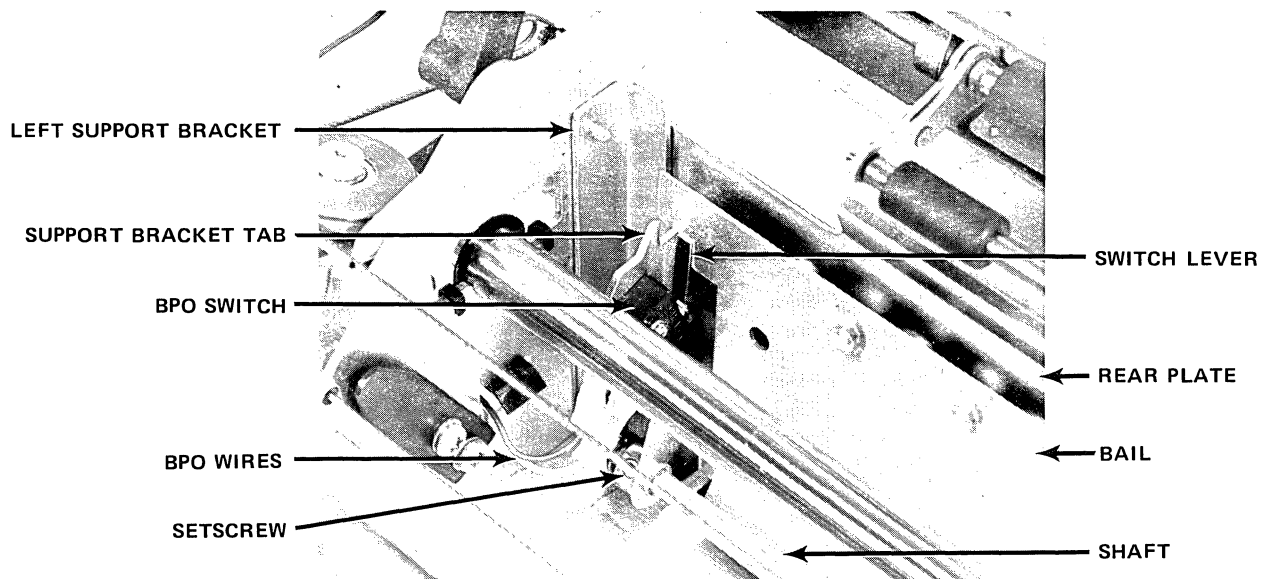

Figure 4-27. BOTTOM FEED ASSEMBLY
- 11) Lower the paper chute rear plate (Item 1) into position flat against the printer frame as shown in Figure 4-27. The row of bumps on the plate must be at the top and projecting forward away from the printer frame. The plate rests on the printer frame on either side of the bottom slot. (Note -- Installation will be easier with the carriage centered.)
- 12) Thread the two setscrews (7) part way into the collars on the paper chute bail (3).
- 13) Assemble the Bottom Paper Out (BPO) switch (8) to the left paper chute support bracket (4) using the new switch, one 2-56 x .500" hex washer head screw, one #2 lockwasher and a nut plate (do not tighten).
- 15) Assemble the bottom paper chute bail (3) to the bottom paper chute shaft (6) and to the left and right support brackets (4 and 5), using the two retaining rings (12) at the left end of the shaft.
- 17) Center the bail (3) for equal contact against the left and right support bracket tabs (Fig. 4-27), and then tighten the two setscrews (7) to secure the bail to the paper chute shaft.